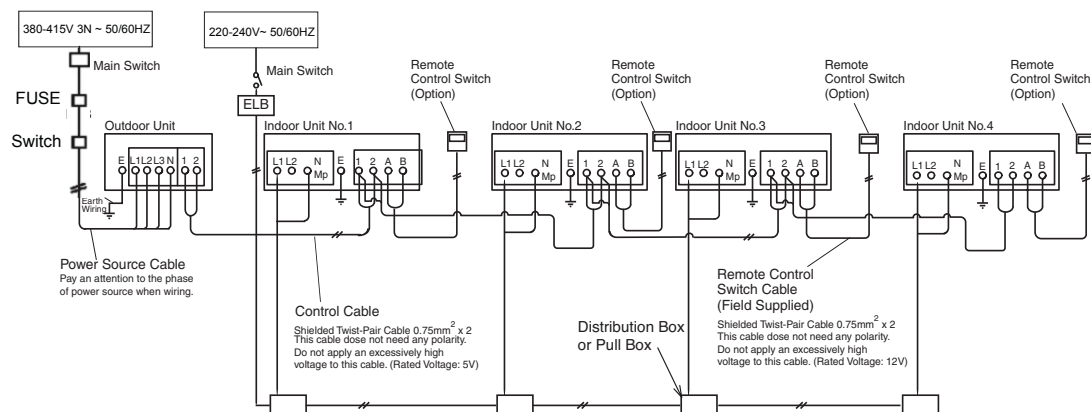
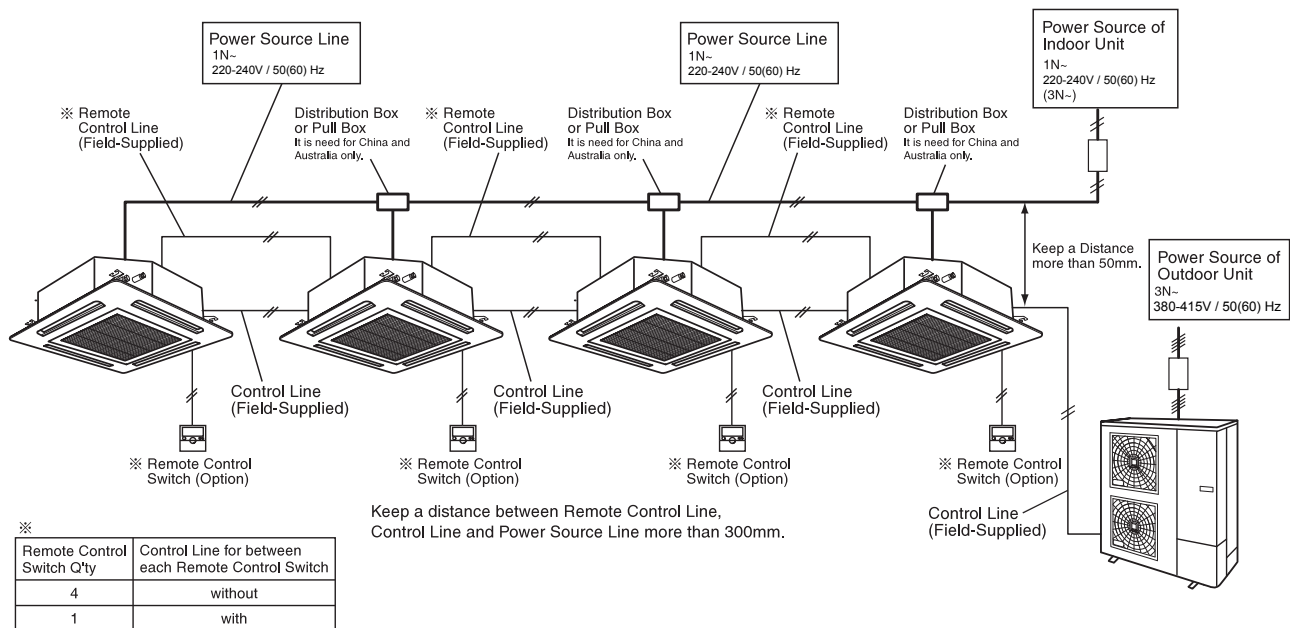

Fig. 6.2 Wiring Connection
Fig. 6.3 Wiring Connection (3N~ 380-415V/50(60) Hz)
In addition, connect the earth wire to earth screw in the electrical control box of indoor unit. Refer to Fig. 6.2, Fig. 6.3 and Fig. 6.4.
- (4) As shown in Fig. 6.2, connect the wire between indoor and outdoor units, and check to assure the tension of terminal crimp wire at each terminal block.
- (5) The communication line between outdoor unit and indoor unit or water module should be shielded twisted pair that is respectively connected to terminals 1 and 2 of terminal block between indoor and outdoor units. Connect the communication cable of wired control to terminals A and B of terminal block.